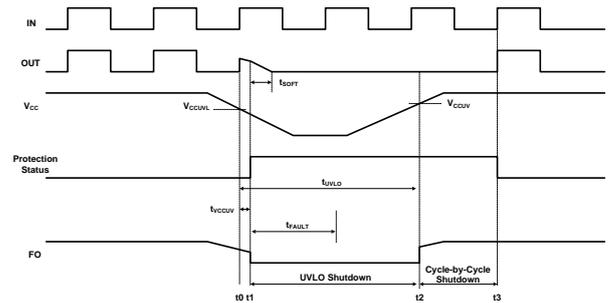

Figure 46. Timing chart of $t_{UVLO} > t_{FAULT}$ condition
Gate drive output is softly turn-off and Fault-Out (FO) stays in low state until fault condition has been removed when the duration of under-voltage condition (t_{UVLO}) longer than fault output (FO) time (typical 110 μ s) as shown in Figure 46 The fault output (FO/SD) and gate driver output goes to low state after under-voltage filtering time (t_{VCCUV} , typically 10 μ s) when the V_{CC} is below the under-voltage lockout low threshold voltage.